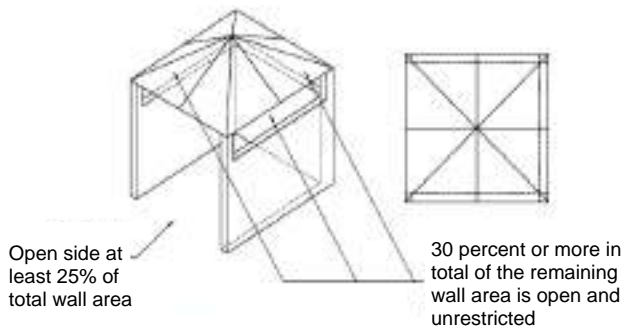

FIGURE F4—OUTDOOR AREA—EXAMPLE 4
(3) Within a partial enclosure that includes an overhead cover and more than two walls, the following shall apply:
- See figures F4 and F5.